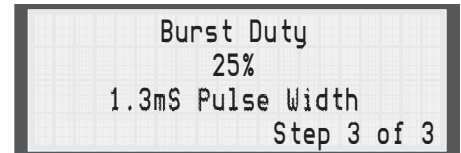

Fig. 2.30
7. Use the Arrow keys to set the duty cycle of the burst pulses (**Fig. 2.30**), then press the Enter key.